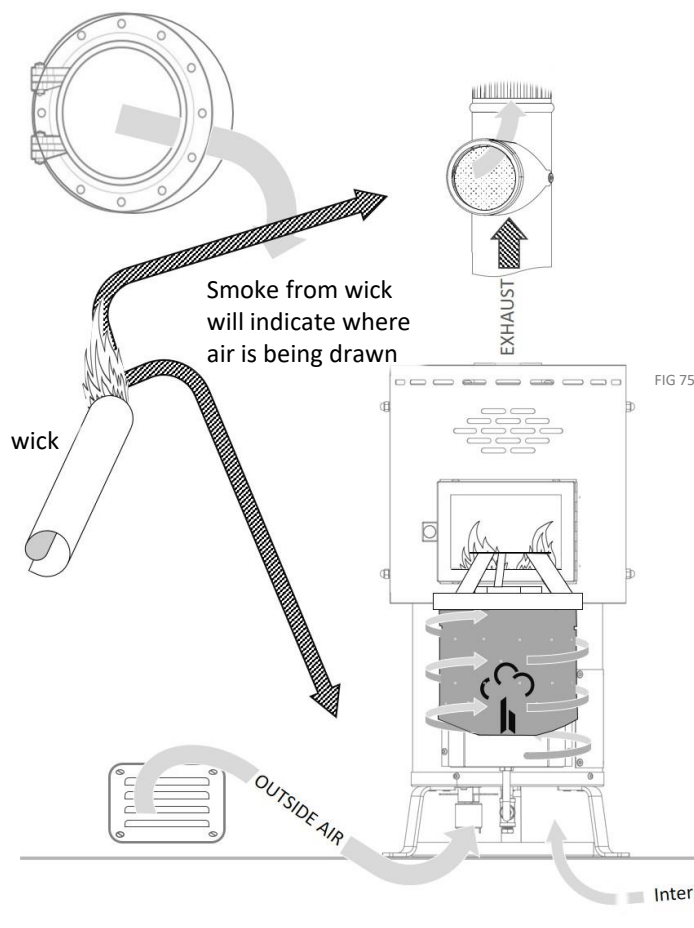

FIG 75
- Test the cabin for positive pressure (see page 40, fig 75 for draft test)